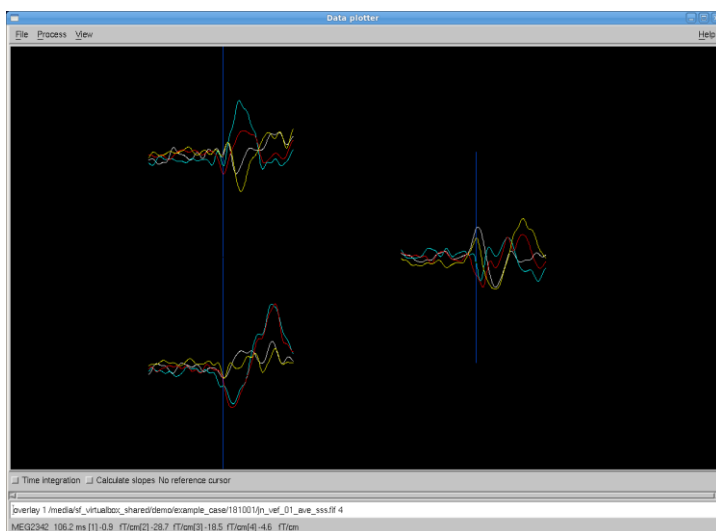

Figure 18: On-line average of VEF. Typical primary response is at 100ms (P100m).
6. Monitor the on-line averages in Data Plotter, **shift + left mouse and drag** to zoom in, primary response should be approximately 100ms (see Figure 18).